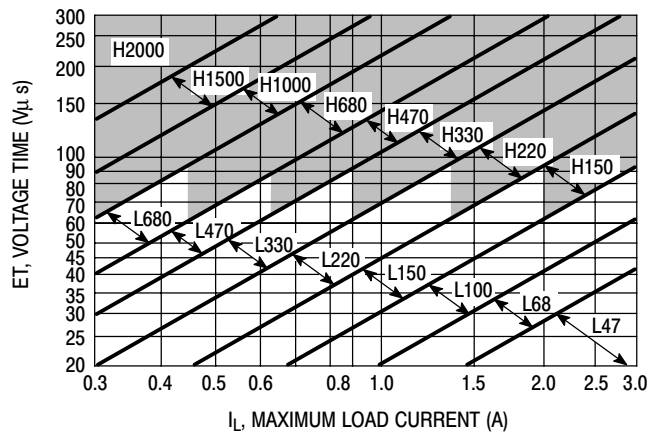

Figure 22. LM2576-ADJ
4. Inductor Selection (L1) A. Use the following formula to calculate the inductor Volt x microsecond [V x μs] constant: $E \times T = (V_{in} - V_{out}) \frac{V_{out}}{V_{in}} \times \frac{10^6}{F[\text{Hz}]} \text{ [V x } \mu\text{s]}$ B. Match the calculated E x T value with the corresponding number on the vertical axis of the Inductor Value Selection Guide shown in Figure 22. This E x T constant is a measure of the energy handling capability of an inductor and is dependent upon the type of core, the core area, the number of turns, and the duty cycle. C. Next step is to identify the inductance region intersected by the E x T value and the maximum load current value on the horizontal axis shown in Figure 25. D. From the inductor code, identify the inductor value. Then select an appropriate inductor from Table 2. The inductor chosen must be rated for a switching frequency of 52 kHz and for a current rating of $1.15 \times I_{Load}$. The inductor current rating can also be determined by calculating the inductor peak current: $I_{p(max)} = I_{Load(max)} + \frac{(V_{in} - V_{out}) t_{on}}{2L}$ where t_{on} is the “on” time of the power switch and $t_{on} = \frac{V_{out}}{V_{in}} \times \frac{1.0}{f_{osc}}$ For additional information about the inductor, see the inductor section in the “External Components” section of this data sheet.	4. Inductor Selection (L1) A. Calculate E x T [V x μs] constant: $E \times T = (25 - 8.0) \times \frac{8.0}{25} \times \frac{1000}{52} = 80 \text{ [V x } \mu\text{s]}$ B. E x T = 80 [V x μs] C. $I_{Load(max)} = 2.5 \text{ A}$ Inductance Region = H150 D. Proper inductor value = 150 μH Choose the inductor from Table 2.